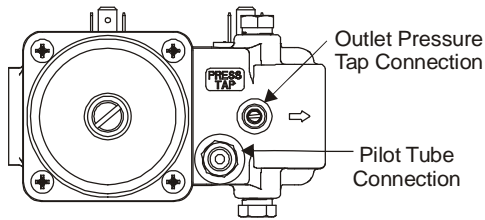

Figure 2: Underside of Valve with Direct-Acting Regulator
8. Connect the pilot tubing (when necessary) to the threaded pilot connection on the underside of the valve body (Figure 2) and run the tube to the pilot burner within the appliance. Connect the pilot tube to the valve with an optional compression fitting.
11. To measure the outlet pressure, by apply power to the valve and energizing both valve solenoids. Use the outlet pressure tap connection on the underside of the valve body to monitor the outlet pressure. The outlet pressure tap is a bleed hole with a cast spigot, sealed with a threaded brass needle screw (Figure 2). To measure the outlet pressure, turn the screw in a counterclockwise direction one or two turns and fit a 9 mm diameter flexible tube over the cast spigot. After all valve adjustments have been made and the desired outlet pressure has been obtained, remove the flexible tube. Tighten the needle screw by turning it clockwise with a slotted screwdriver until hand tight, sealing the bleed hole.